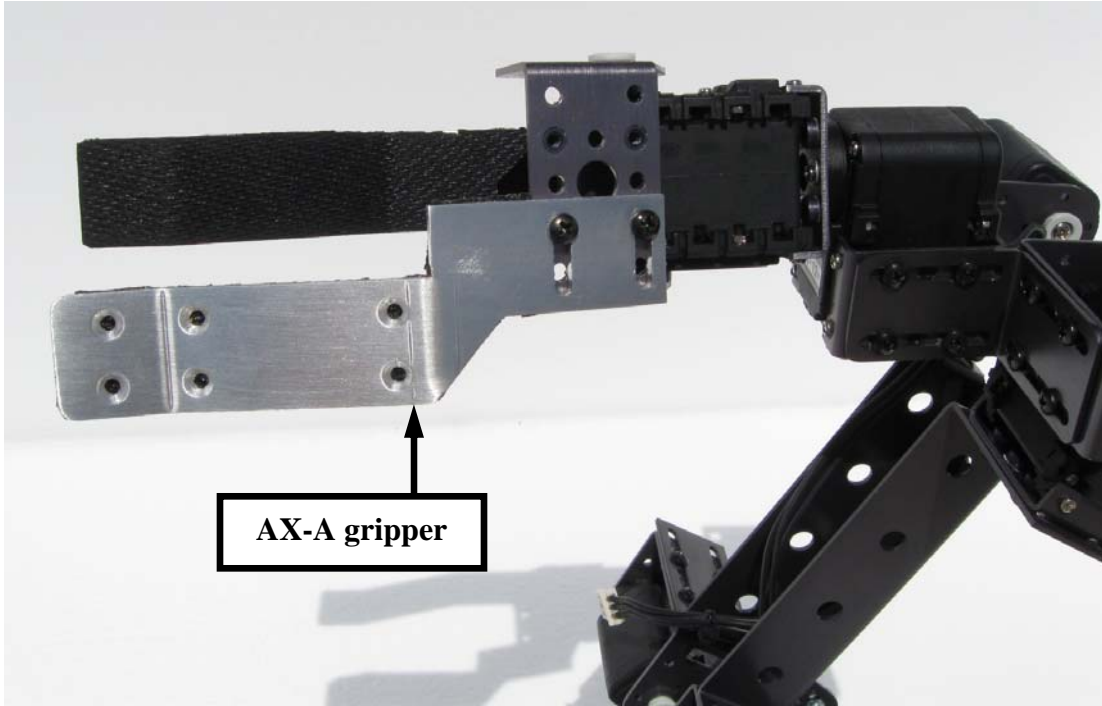

Figure 12
10. Using (2) #4 – ¼” screws, install the AX- A gripper to the arm assembly as shown in figure 12. Be sure to slide the AX-A gripper all the way to the edge of the slot before tightening the #4 screws. **Note:** If you want just the (2) gripper configuration instead of the 3 gripper configuration, simply move the AX-A gripper until it is centered with the AX-C gripper and then tighten the #4 – ¼” screws.